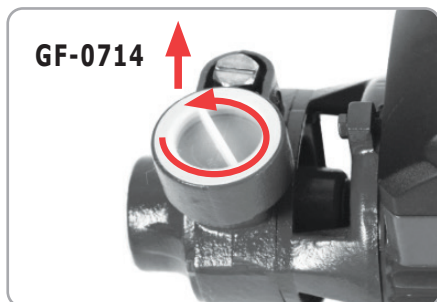

Fig.6
4.6. Amorsarea pompei GF-0714 (Fig.6, 7, 8, 9)